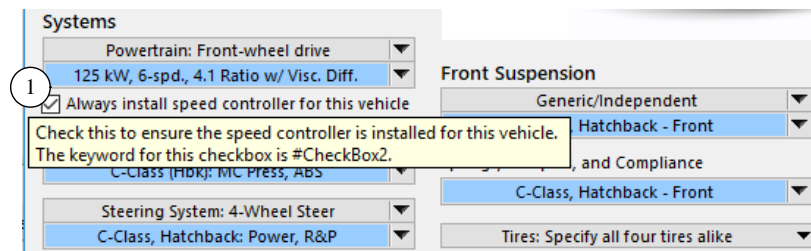

Figure 25. Checkbox on Vehicle screen to install SC with a vehicle.
For simulations that do not use SC at the start, but will use it later in the run, a checkbox on the Vehicle screen ① (Figure 25) may be used to ensure SC will always be available when simulating that vehicle. Another option is to put the command `INSTALL_SPEED_CONTROLLER` in a miscellaneous yellow field of the **Run Control** or **Procedure** dataset.